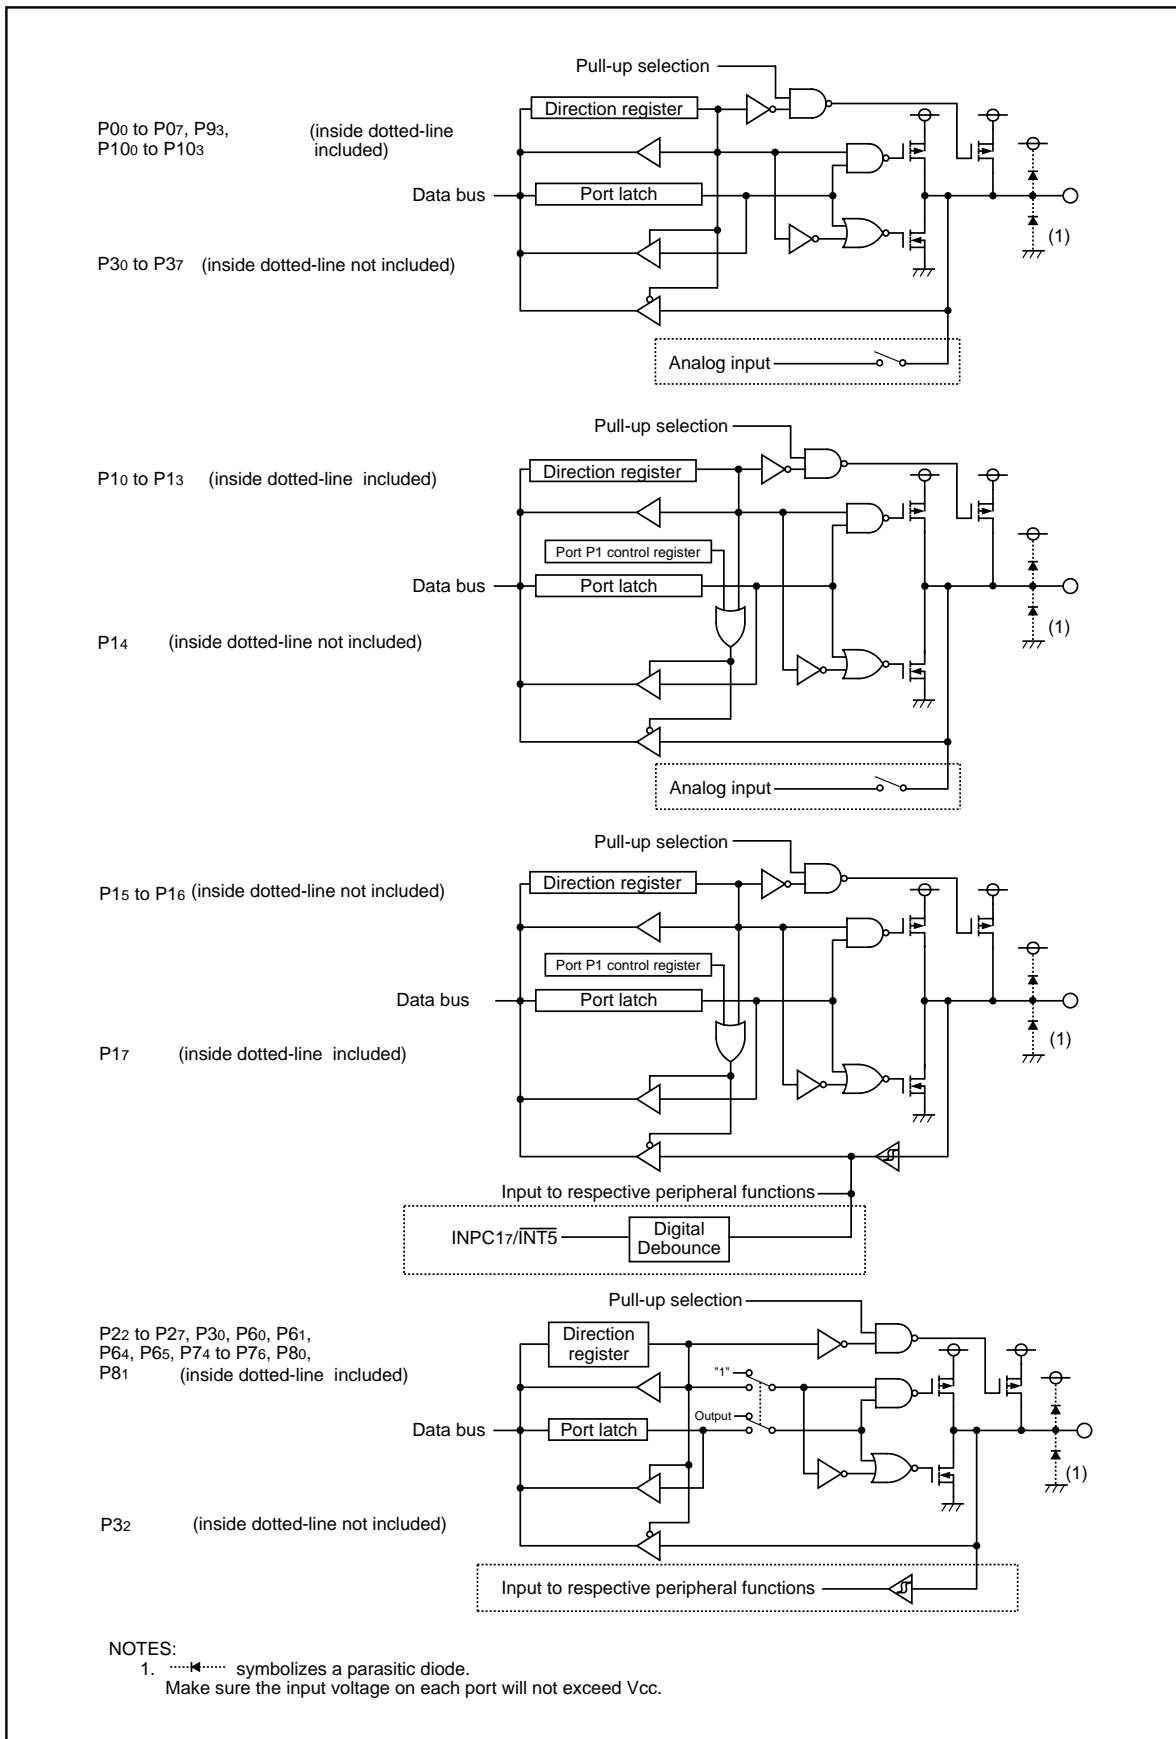
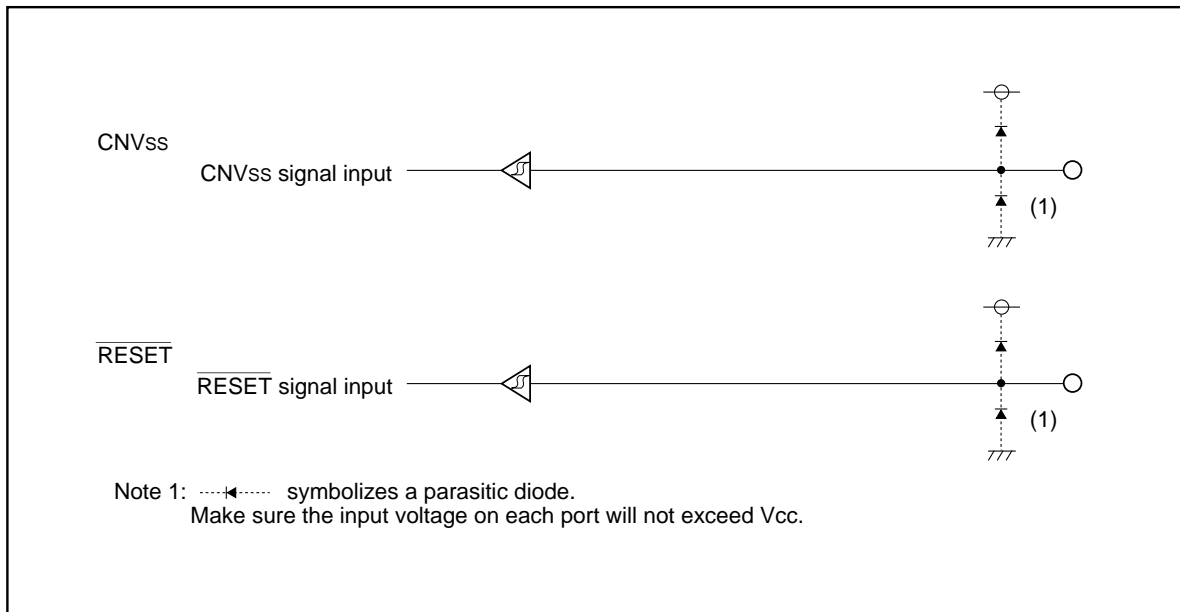

Figure 17.1 I/O Ports (1)
Figure 17.5 I/O Pins
**Figures 17.1 to 17.4** show the I/O ports. **Figure 17.5** shows the I/O pins.